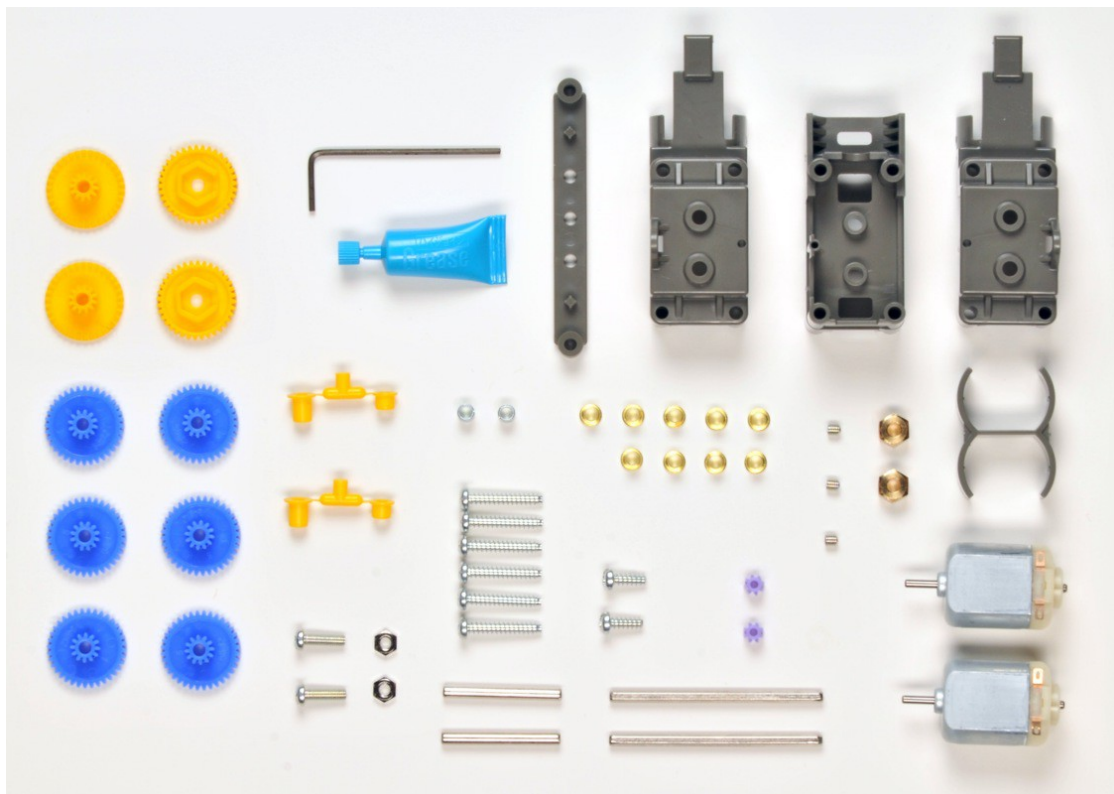

Figure 1.5
6. Organize the parts for ease of assembly. Identify that all parts are present, as shown in figure 1.5.